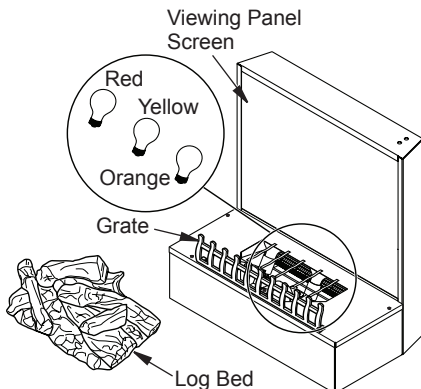

Figure 12 - Bulb Placement
2. Turn on power to light circuit and check that all bulbs are operating. Bulb placement front left to right are red, yellow and orange (see Figure 12).